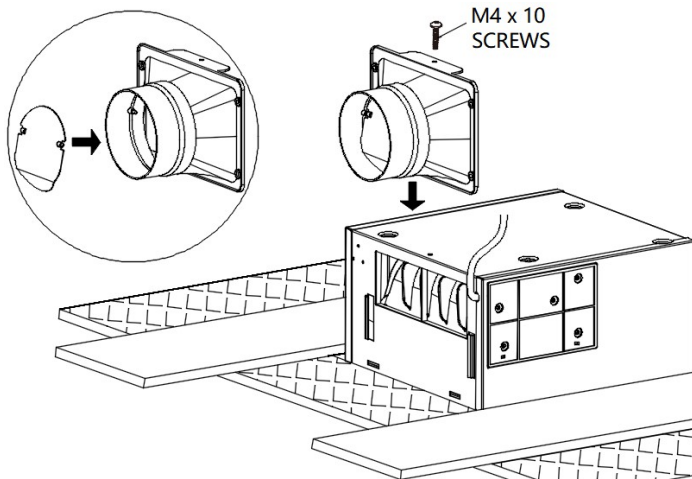

Fig.5.
6. Install the plastic plate into the duct connector. Then install the duct connector into the fan housing and tighten the screws. (See the Fig.5.)